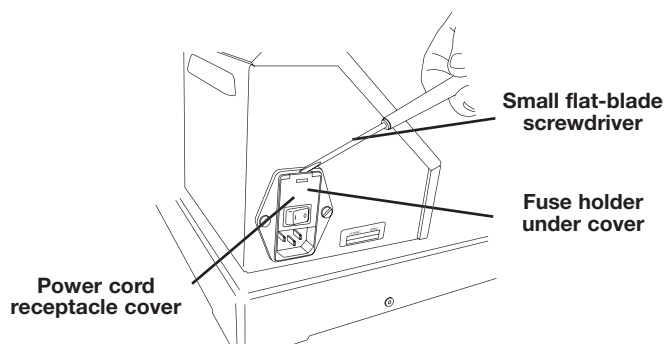

Fig. 19
1. Ensure that the tube flaring system is turned off and unplugged. Locate the fuse holder, which is integrated with the power cord receptacle. See Fig. 19.
2. Using a small, flat-blade screwdriver, gently pry open the fuse holder cover. See Fig. 19.